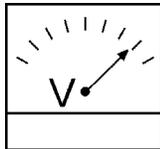
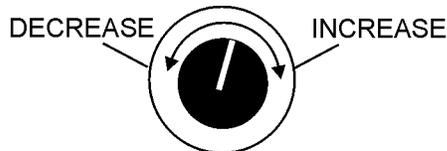

Figure 44. Voltmeter
Figure 45. Voltage Adjust Control Knob
6. The generator's AC-voltmeter (Figure 44) will display the generator's output in **VOLTS**. If the voltage is not within the specified tolerance, use the voltage adjustment control knob (Figure 45) to increase or decrease the desired voltage.